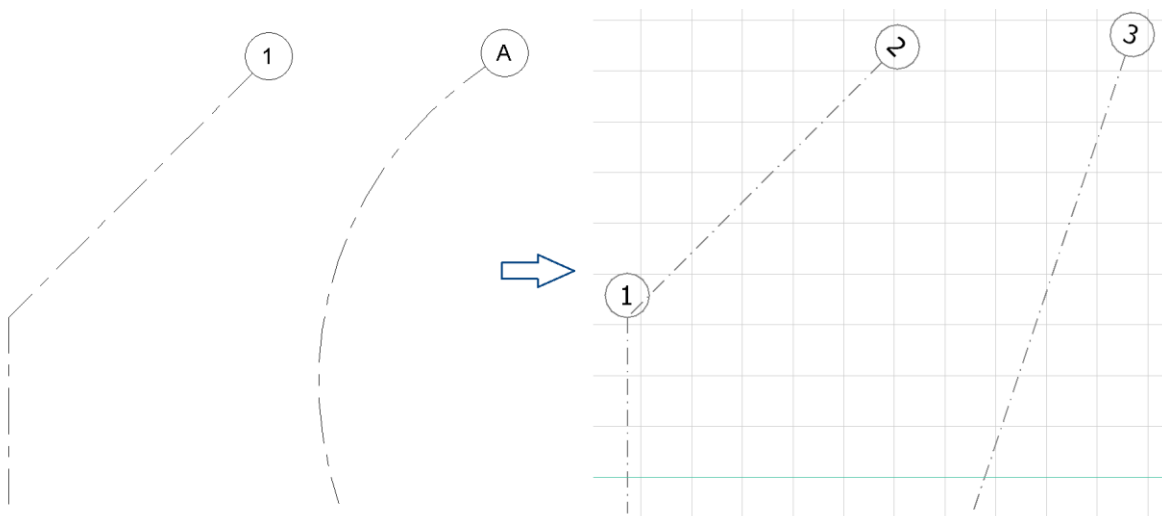

Figure 3-10
- curved grid after export from Revit to FEM-Design will be replaced with a straight line axis between the start and end point of the original curved grid, as shown in Figure 3-10.